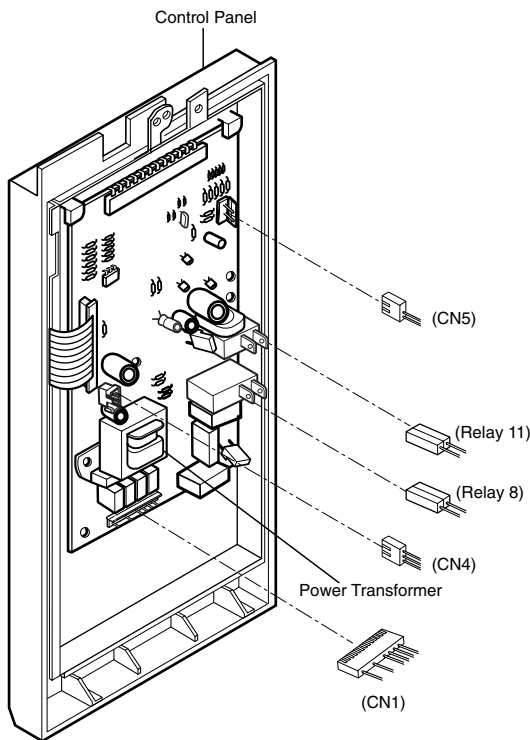

Figure 1
A. REMOVING POWER AND CONTROL CIRCUIT BOARD (Figures 1, 2 and 3)
- (1) Remove the screw securing the control panel assembly to the oven cavity.
- (2) Remove the control panel by pushing it upward.
- (3) Remove the connectors (CN1, CN5), wire leads (RY8, RY11) and sensor wire connector (CN4) from the circuit board.